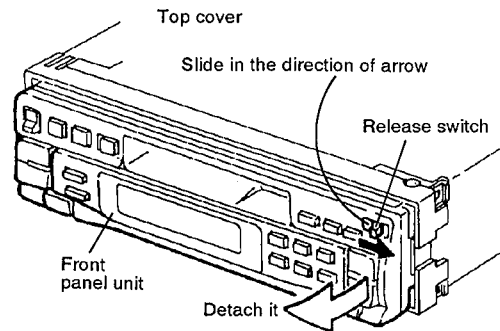

Fig. 4-1
- ◆ **Detaching the front panel unit** (See Fig. 4-1)